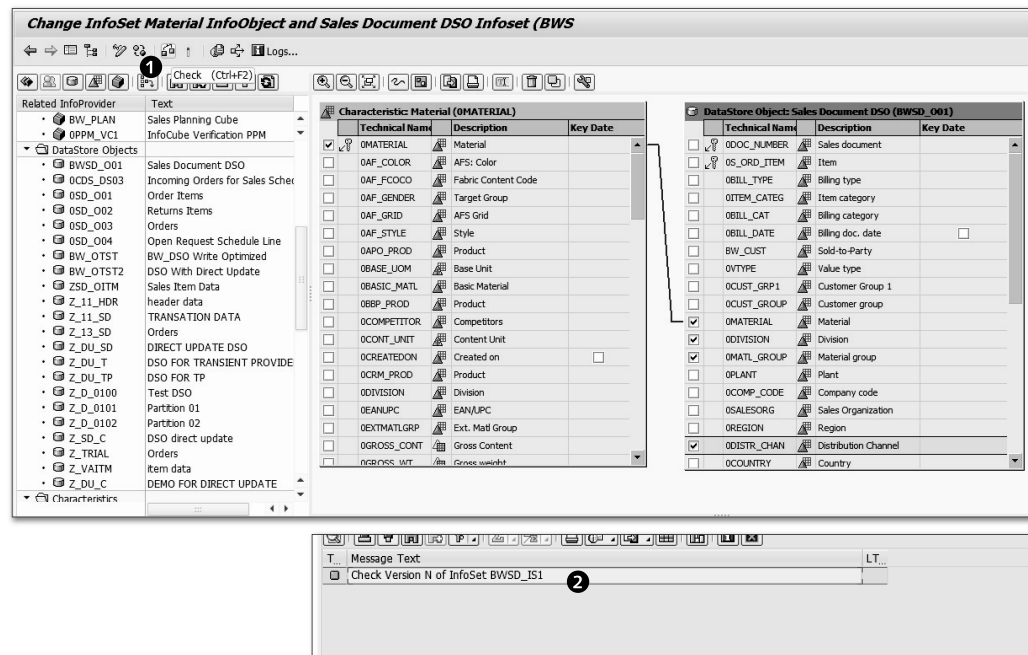

Figure 6.26 Checking the Definition of an InfoSet
Now check the definition using the CHECK icon, as shown in ❶ of Figure 6.26.
Checked messages are available at the bottom of the screen, as shown in ❷ of Figure 6.26. Because the checking of InfoSet BWSD_IS1 hasn't resulted in any error messages, we can now activate the InfoSet definition in the SAP BW system.